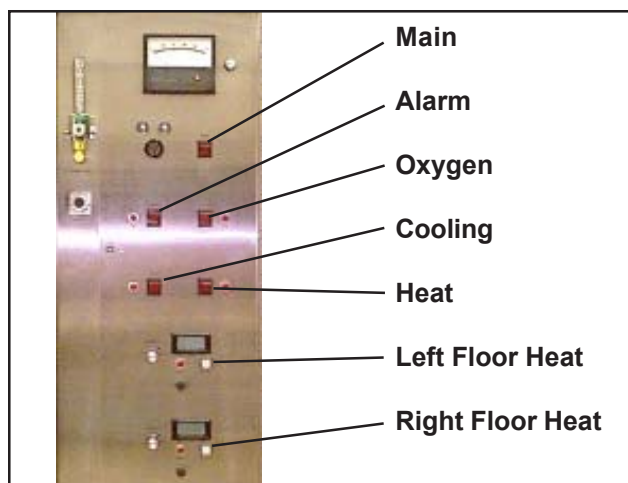

Figure 40. On/Off Switches/Buttons on Electronics Compartment Door
1. Make sure that all seven on/off switches and buttons (Figure 40) are in the Off position (The upper ends of all switches should be depressed):
1. Push the main on/off switch (Figure 40) to On. The amber light in the switch comes on.
3. Push the heat on/off switch (Figure 40) to On. The amber light in the switch comes on.
7. Push the main on/off switch (Figure 40) to Off. The light in the switch goes out.
2. Push the left floor heat on/off button (Figures 40 and 43) to On. The amber light in the button comes on.
5. Push the main on/off switch (Figure 40) to On. The amber light in the switch comes on.
1. Make sure the main on/off switch (Figure 40) is Off.